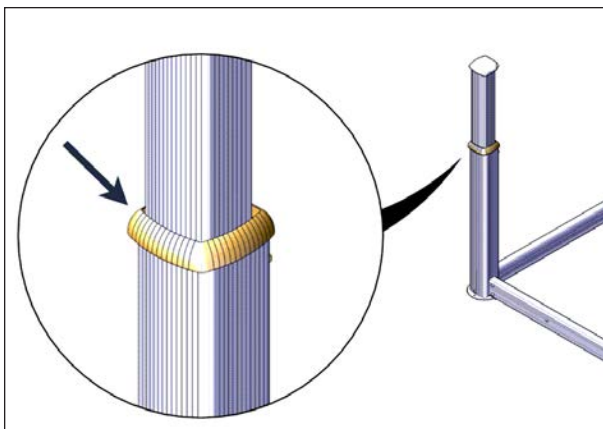

FIGURE 44: ALL-WEATHER SEAL INSTALLATION
22. Install the all-weather seal on each post and make sure it is slid all the way down against the top of each outer sleeve, see Figure 44.